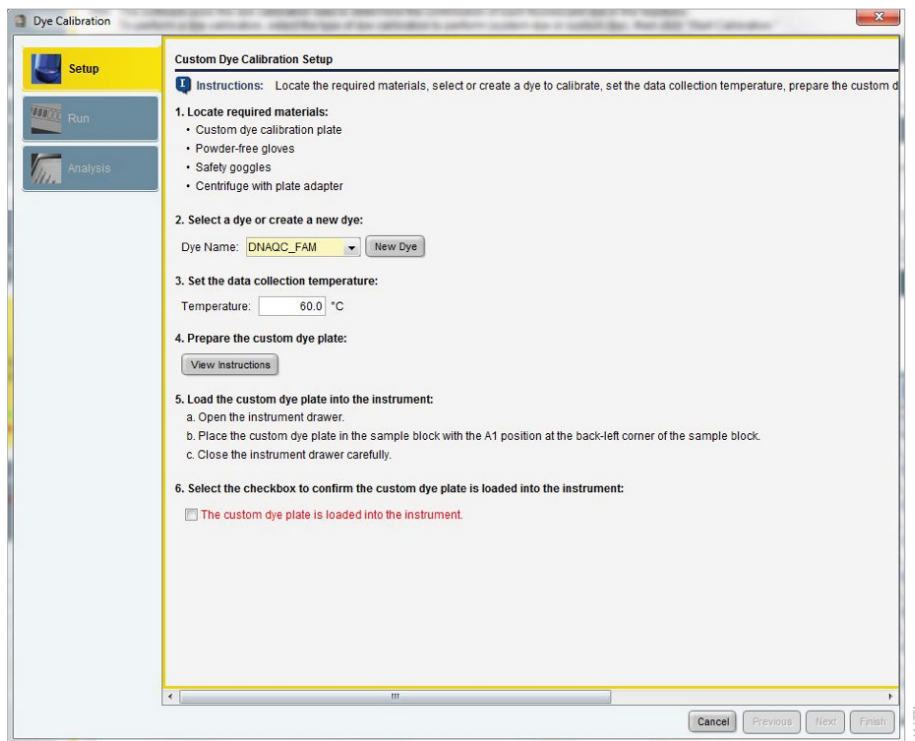

Figure 2. Calibrating a new dye.
7. In the Dye Calibration window that appears, select the “New Dye” button (Figure 2).